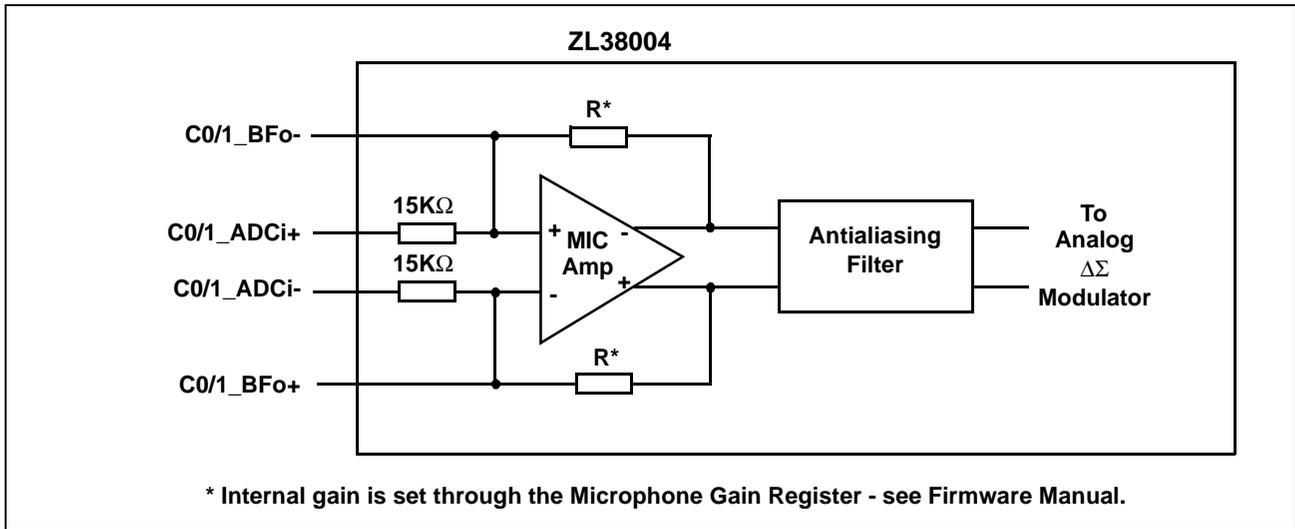

Figure 4 - CODEC 0/1 ADC Microphone Amplifier Selected
The internal differential input buffer of the ZL38004 CODECs can be configured to be either a Microphone Amplifier interface with internal gain or a Line Amplifier with external gain. With Microphone Amplifier operation, Figure 4, the internal feedback resistor (R) is programmable for gain settings of 0, 6.02, 12.04, 18.06, 24.08 and 30.10 dB for an input maximum differential voltage of 800 to 25 mVppd. Full scale ADC input voltage is 800 mVppd (9 dBm0), which represents full scale 2s complement codes of ± 32767 . In this application C0/1_BFo+/- outputs should be left open and C0/1_ADCi+/- are to be capacitively coupled.